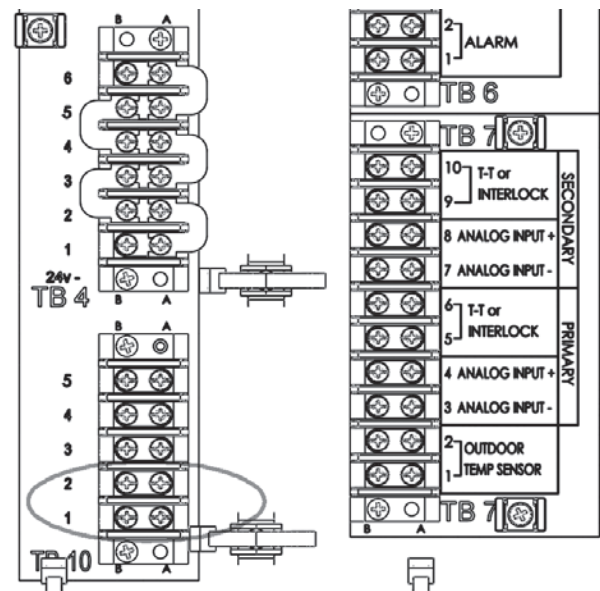

Figure 33. Disconnecting an Unused Touch Screen. Also see Figure 20 on page 32
- Locate terminal block 10 (TB10). See Figure 33. Remove the jumper connecting pins 1 and 2 on TB10. You can also reference Figure 20 on page 32 for connections.